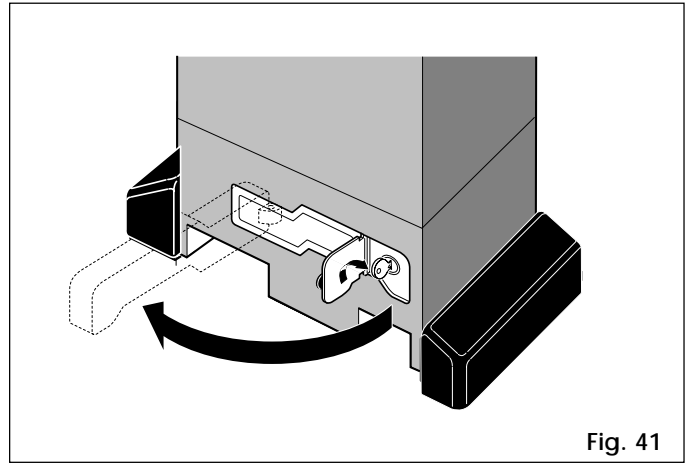

Fig. 41
- 2) Turn the key clockwise and pull out the release lever as shown in Fig.41.